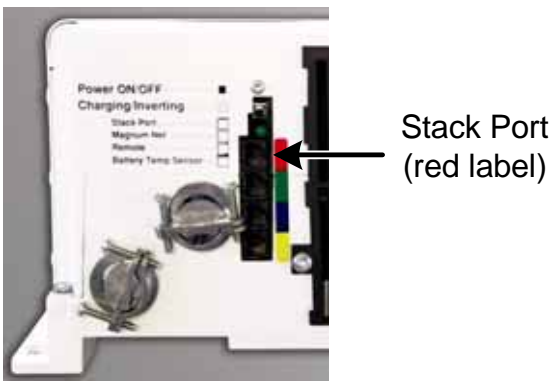

Figure 6, Stack Port Location
Figure 6, Stack Port Location	7
1. Locate the "Stack Port" on each inverter; see *Figure 6, Stack Port Location*.